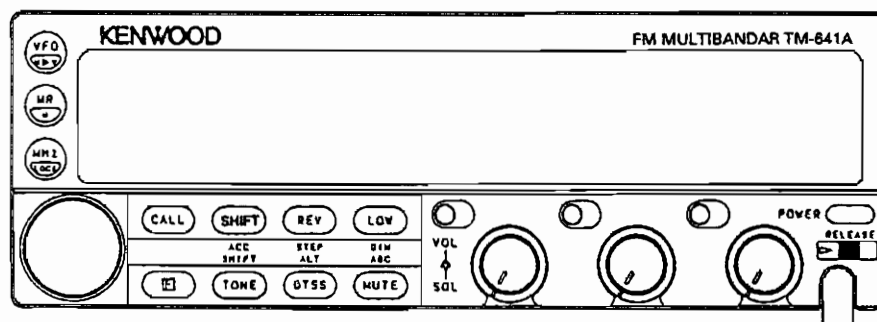

Fig. 44
- Check that the display and LCD display are shown in Figure 44 after controls are set as in shown in Table 22.